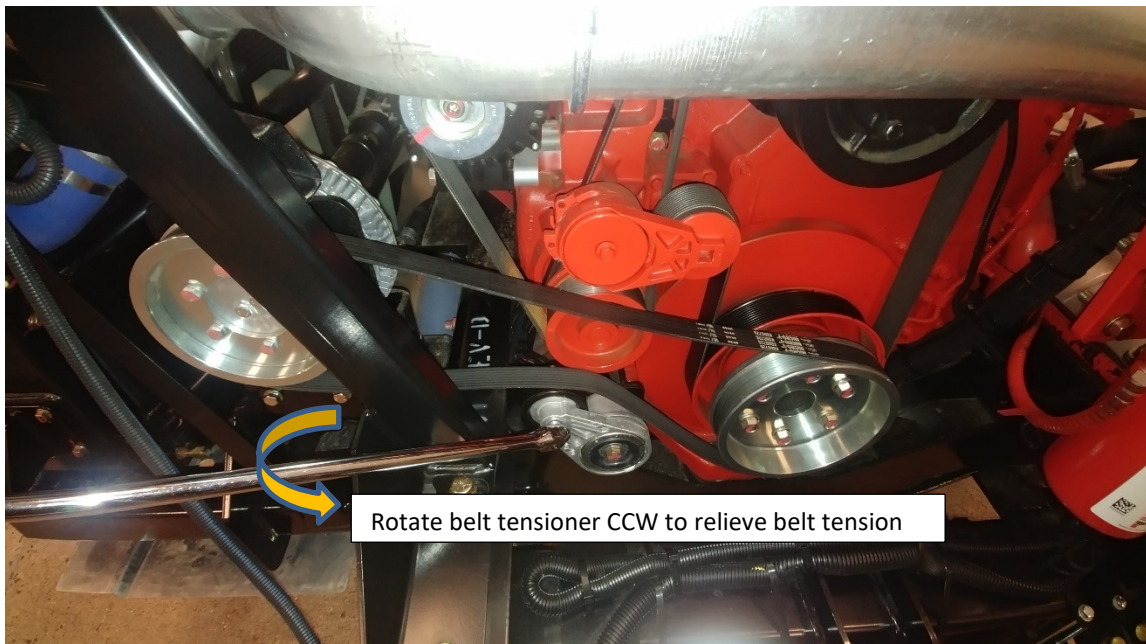

Figure 1
- 3) Using ½" drive breaker bar, rotate belt tensioner CCW to relieve fan drive belt tension and install NEW fan drive belt. Refer to Figure 1 for belt routing.